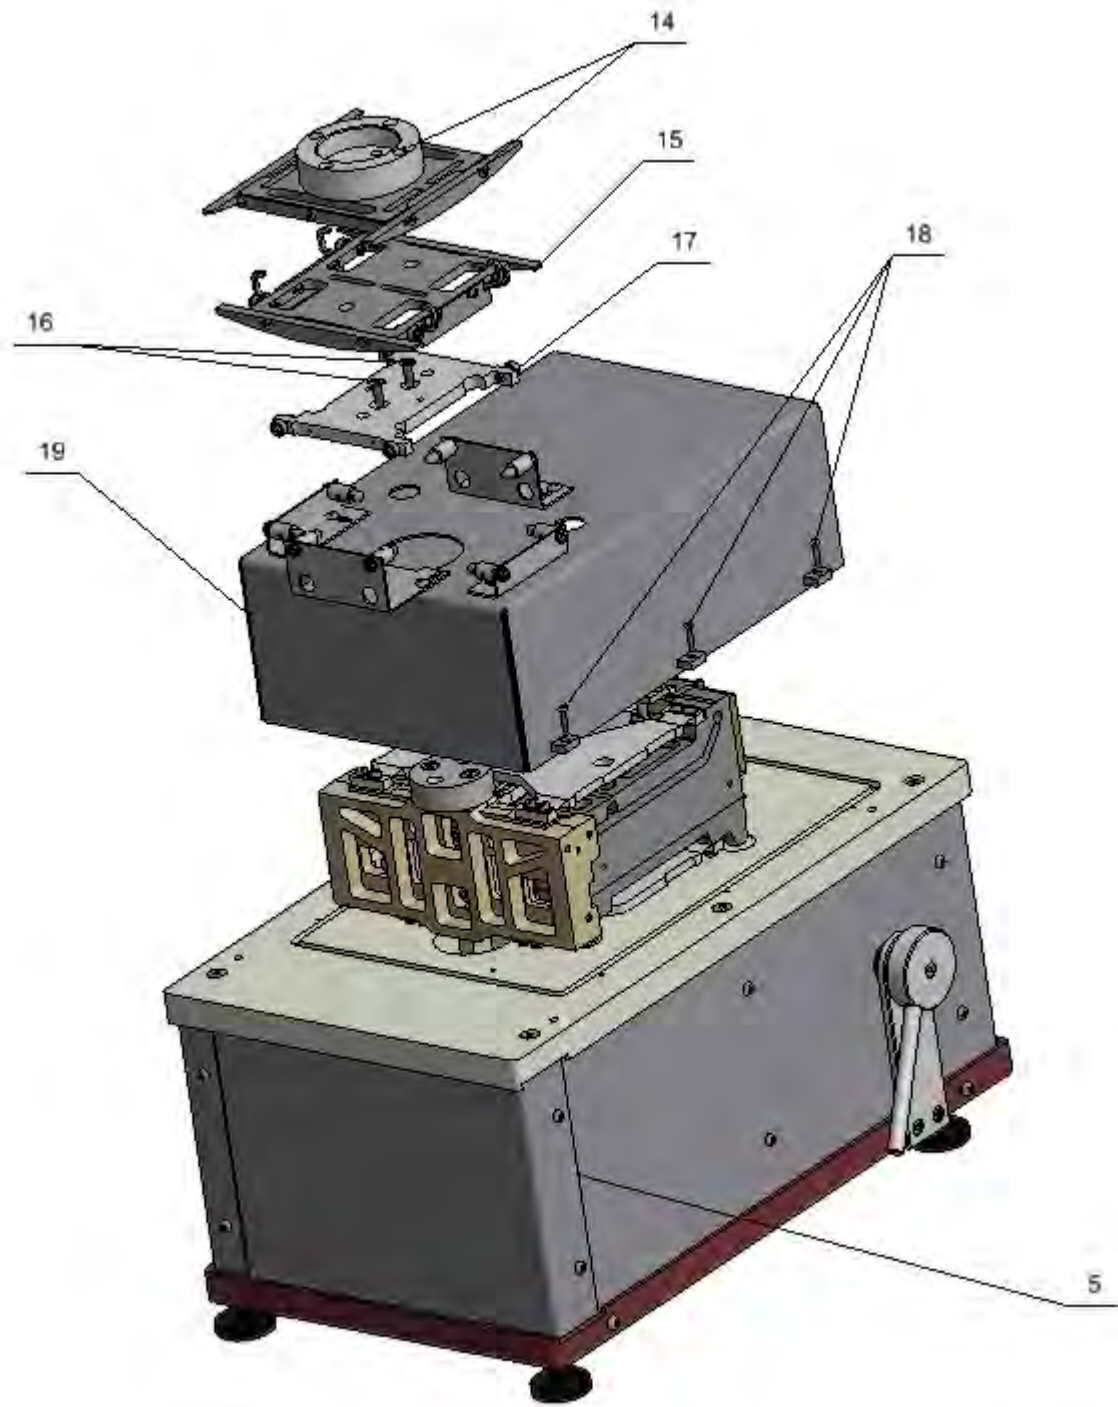

Fig.7
11. Fix the lid assembly for a bottom shield (5). (Fig.7)
12. Remove top panel assembly with a spacer sleeve (14) and central panel assembly (15). (Fig.7)
13. Undo two M5 screws (16) and remove central panel (17). (Fig.7)
14. Undo 6 M3 screws (18) and remove top shield assembly (19). (Fig.7)